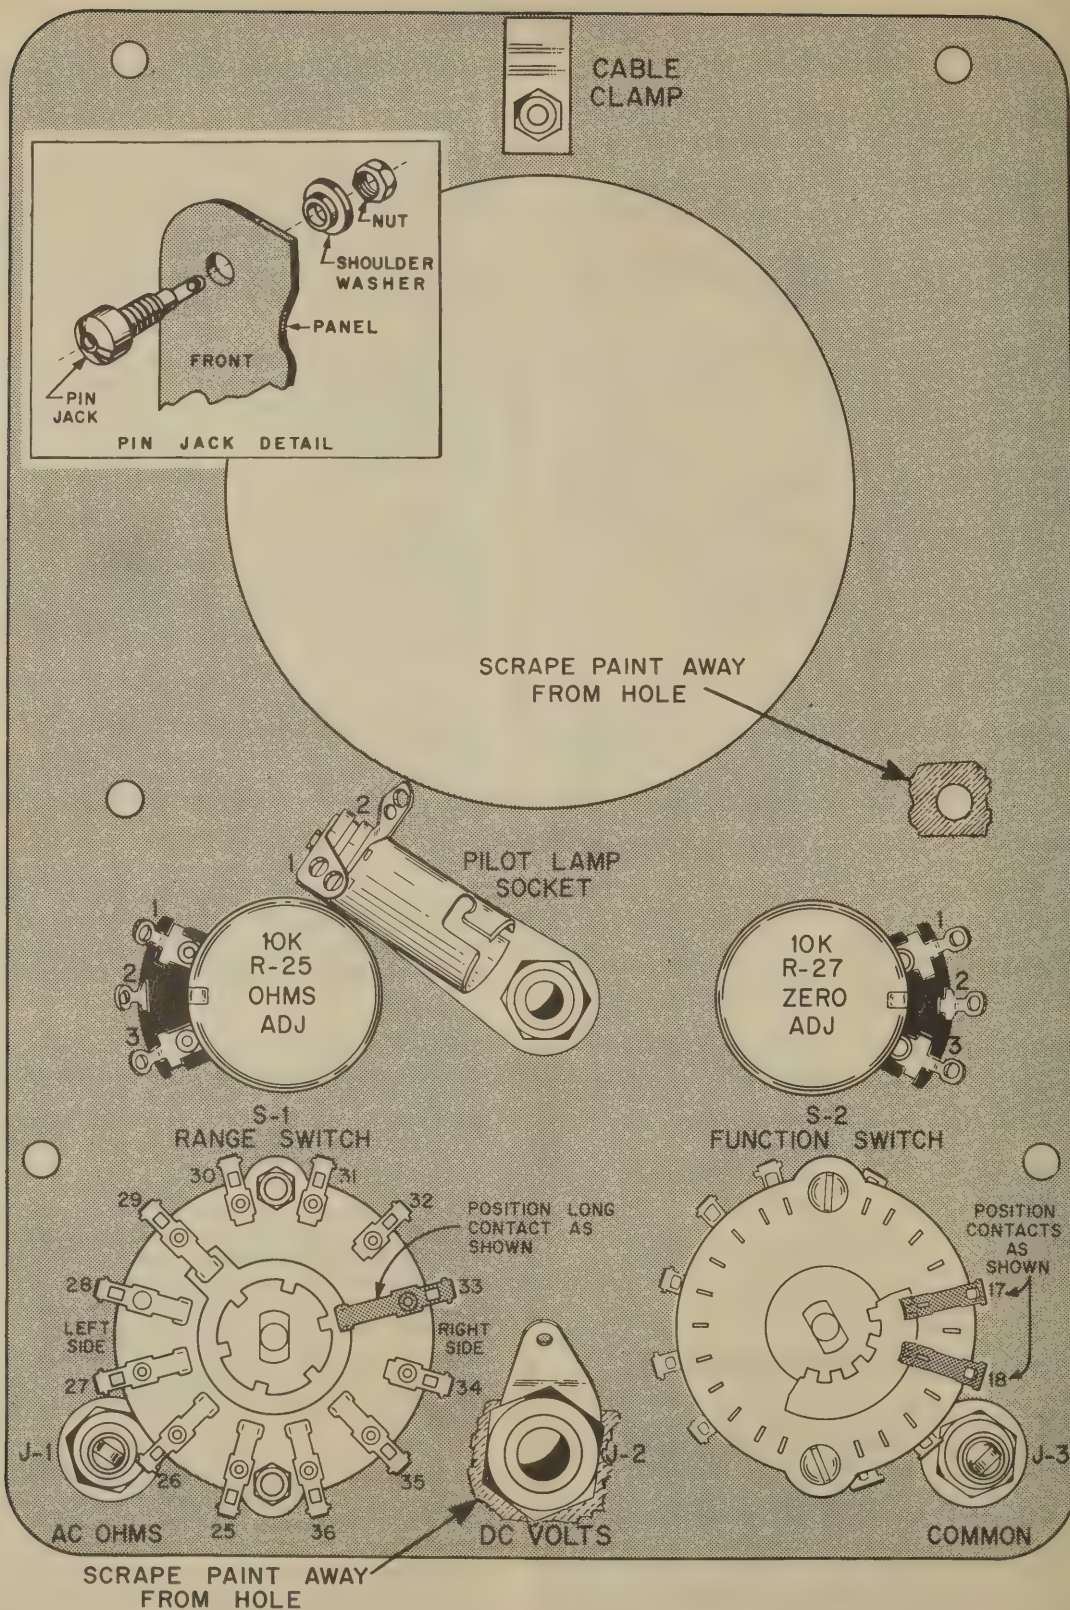

FIGURE 1. MOUNTING THE PARTS ON THE PANEL
### SEE FIGURES 1 AND 2
- (✓) Mount the pilot light socket between R-25 and R-27. The bracket must be positioned as shown in Figure 1.
- (✓) Mount J-1, the red pin jack, in the lower left corner of the panel. Use a **shouldered fiber washer** on the **inside of the panel** to insulate the jack from the panel. Now, tighten a nut against the washer. Refer to the pin jack detail in the upper left corner of Figure 1.
- (✓) Mount S-1, the long triple wafer RANGE switch in the hole in the lower left corner of the panel. The long contact on the end wafer must be positioned as shown in Figure 1. The blank space on the wafer near the shaft end must be toward J-1. Use a large nut and a lockwasher on the inside of the panel. Fasten it securely with another large nut. Place a large knob on the shaft. Be sure the line on the knob lines up exactly with the printed dots on the panel. If not, rotate S-1 so the scale on the panel and the line on the knob correspond.